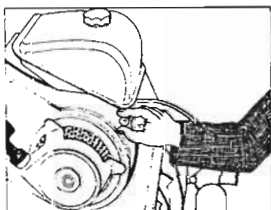

Fig. 2
1. Make sure the landroll clutch is disengaged, i.e., the operating lever (item 12 opposite) should be fully compressed and the safety catch locked in the ratchet.
2. Pull petrol tap to ON position (Fig. 2).